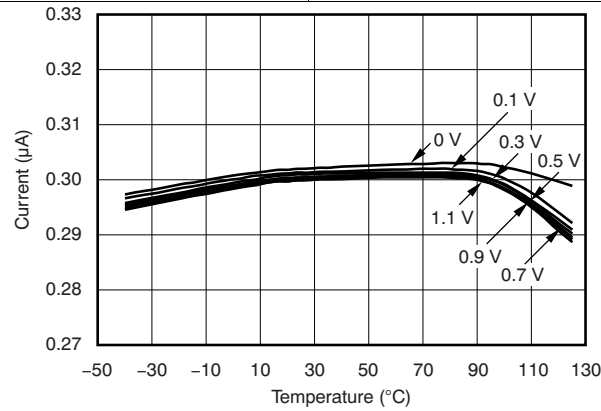

Figure 28. TPS386040 CT1 to CT4 Pin Charging Current vs Temperature Over CT Pin Voltage
- (1) Toggling WDI for a period less than t_{WDT} negatively affects I_{DD} .
- (2) These specifications are beyond the recommended V_{DD} range, and only define $\overline{\text{RESETn}}$ or RESETn output performance during V_{DD} ramp up.
- (3) The lowest supply voltage (V_{DD}) at which $\overline{\text{RESETn}}$ or RESETn becomes active; $t_{\text{RISE}(V_{DD})} \geq 15\text{ }\mu\text{s/V}$.
- (4) CTn (where $n = 1, 2, 3$, or 4) are constant current charging sources working from a range of 0 V to $V_{\text{TH(CTn)}}$, and the device is tested at $V_{\text{CTn}} = 0.5\text{ V}$. For I_{CT} performance between 0 V and $V_{\text{TH(CTn)}}$, see Figure 28.